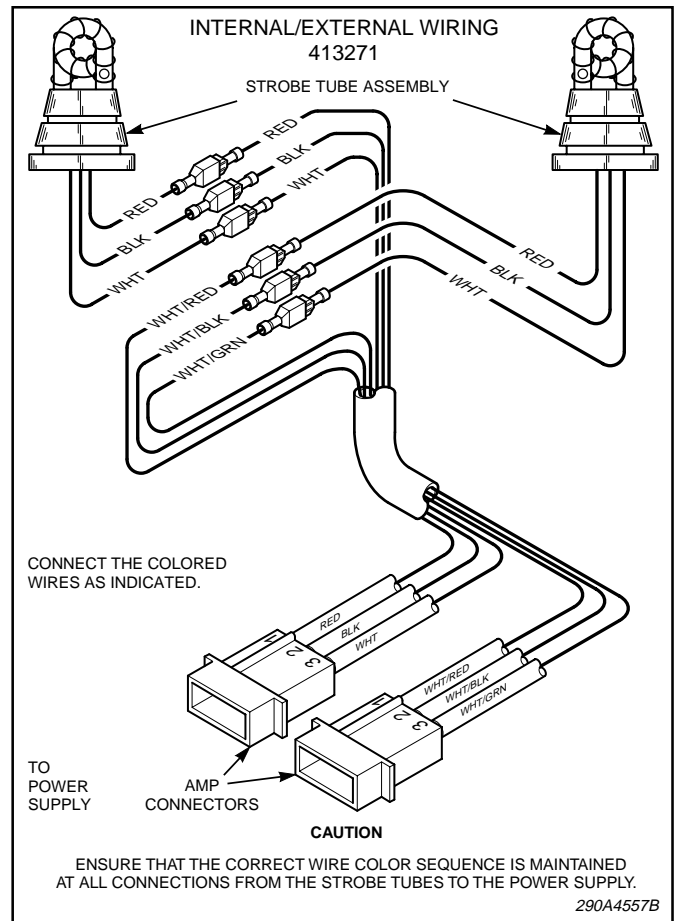

Figure 4.
The light assemblies are supplied with a 7-foot cable with AMP terminals. See figure 4. Perform the electrical connections as described in the instructions packed with the power supply and cable kit. Test the unit for proper operation.
g. See figure 4. Reconnect the 1/4" quick disconnects and observe the proper wiring as shown. Reassemble the unit.
Figure 4 shows Model 413271's internal/external wiring.